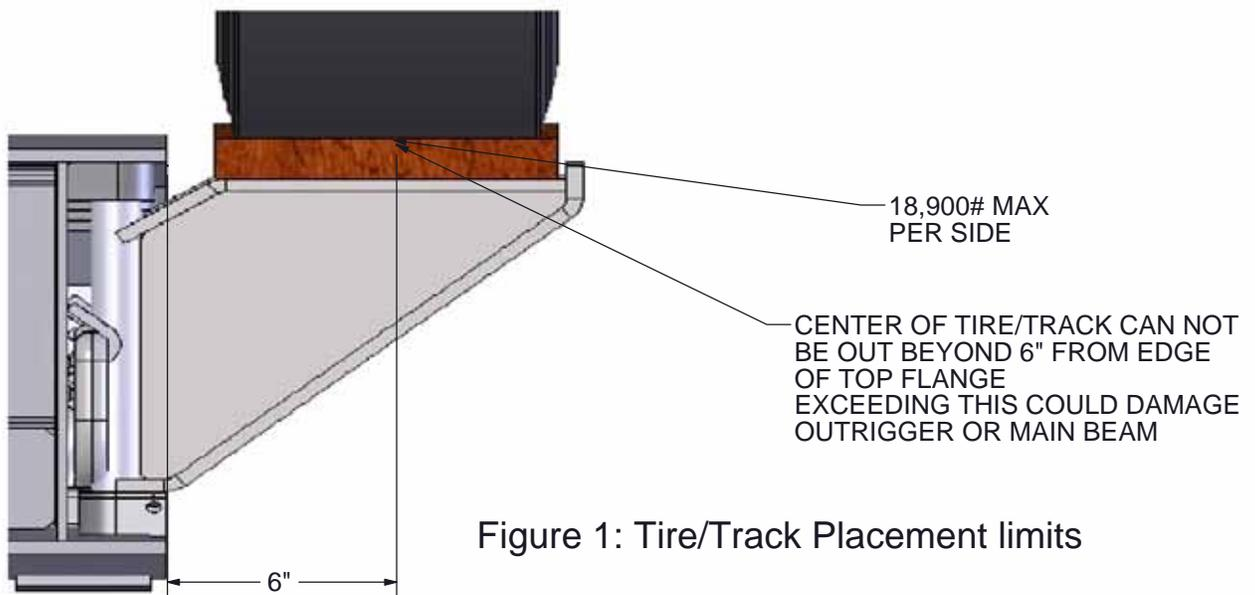

Figure 1: Tire/Track Placement limits
7. When using the outriggers and planks, be sure not to exceed 18,900# per outrigger 6" out from flange. See figure 1 below.